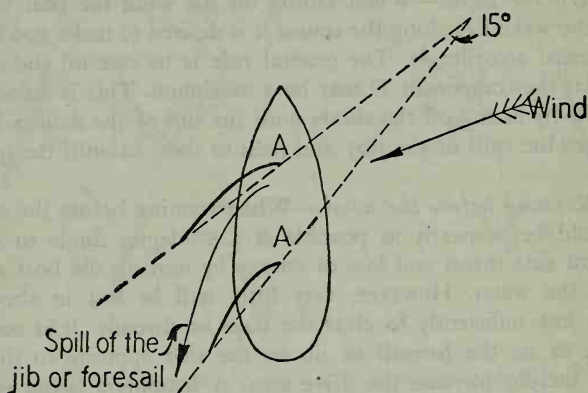

FIG. 33-13.
sheeted too flat, the mainsail will be back sailed by this spill. It will show by a fluttering or dishing in of the mainsail luff. When this occurs, the jib or foresail must be eased at once by slacking off the sheets. As a general rule, because of the curve of the jib or foresail, the foot of these sails should make an angle of about 15 degrees more with the keel line of the boat than the angle of the foot of the mainsail (Fig. 33-13).
(3) Members of the crew must never be allowed to get above the gunwale at the points marked *A* in Fig. 33-13 (directly to windward of the area of greatest drive), for by doing so they create eddy currents which reduce the drive of the sails.
(4) In order to obtain a maximum drive from the foot of the sails, they should be raised as high as is practical above the gunwale and as the force of the wind will allow with the ballast available. They will then tend to be clear of the eddy currents created by the hull of the boat. The ballast available (men) should be used in an effort to keep the boat on as near even keel as practicable. This will present a better angle of attack of the wind on the sail and reduce the blanketing effect of the hull on the foot of the sail. Also, the boat will offer less resistance to headway on her designed lines and give maximum resistance with the keel against the leeward component, *L*. The exception is when in light airs a slight list to leeward is required to make the sails *sleep*.
(5) Members of the crew must, so long as the boat is kept on an